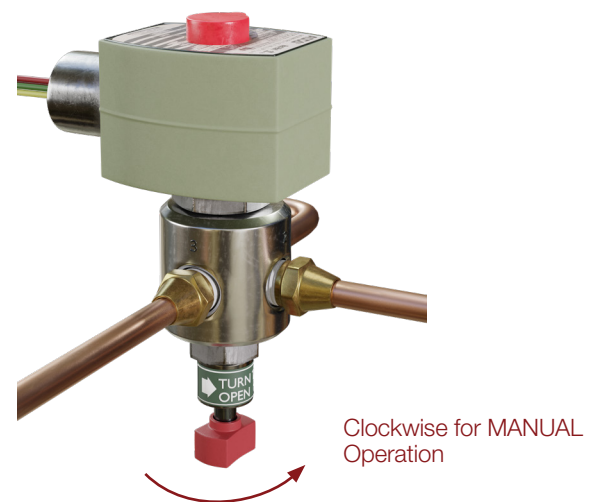

Figure 1
**3-Way Solenoid** – Confirm that the manual operator is turn counter clockwise to a full OUT position (See Figure 1).